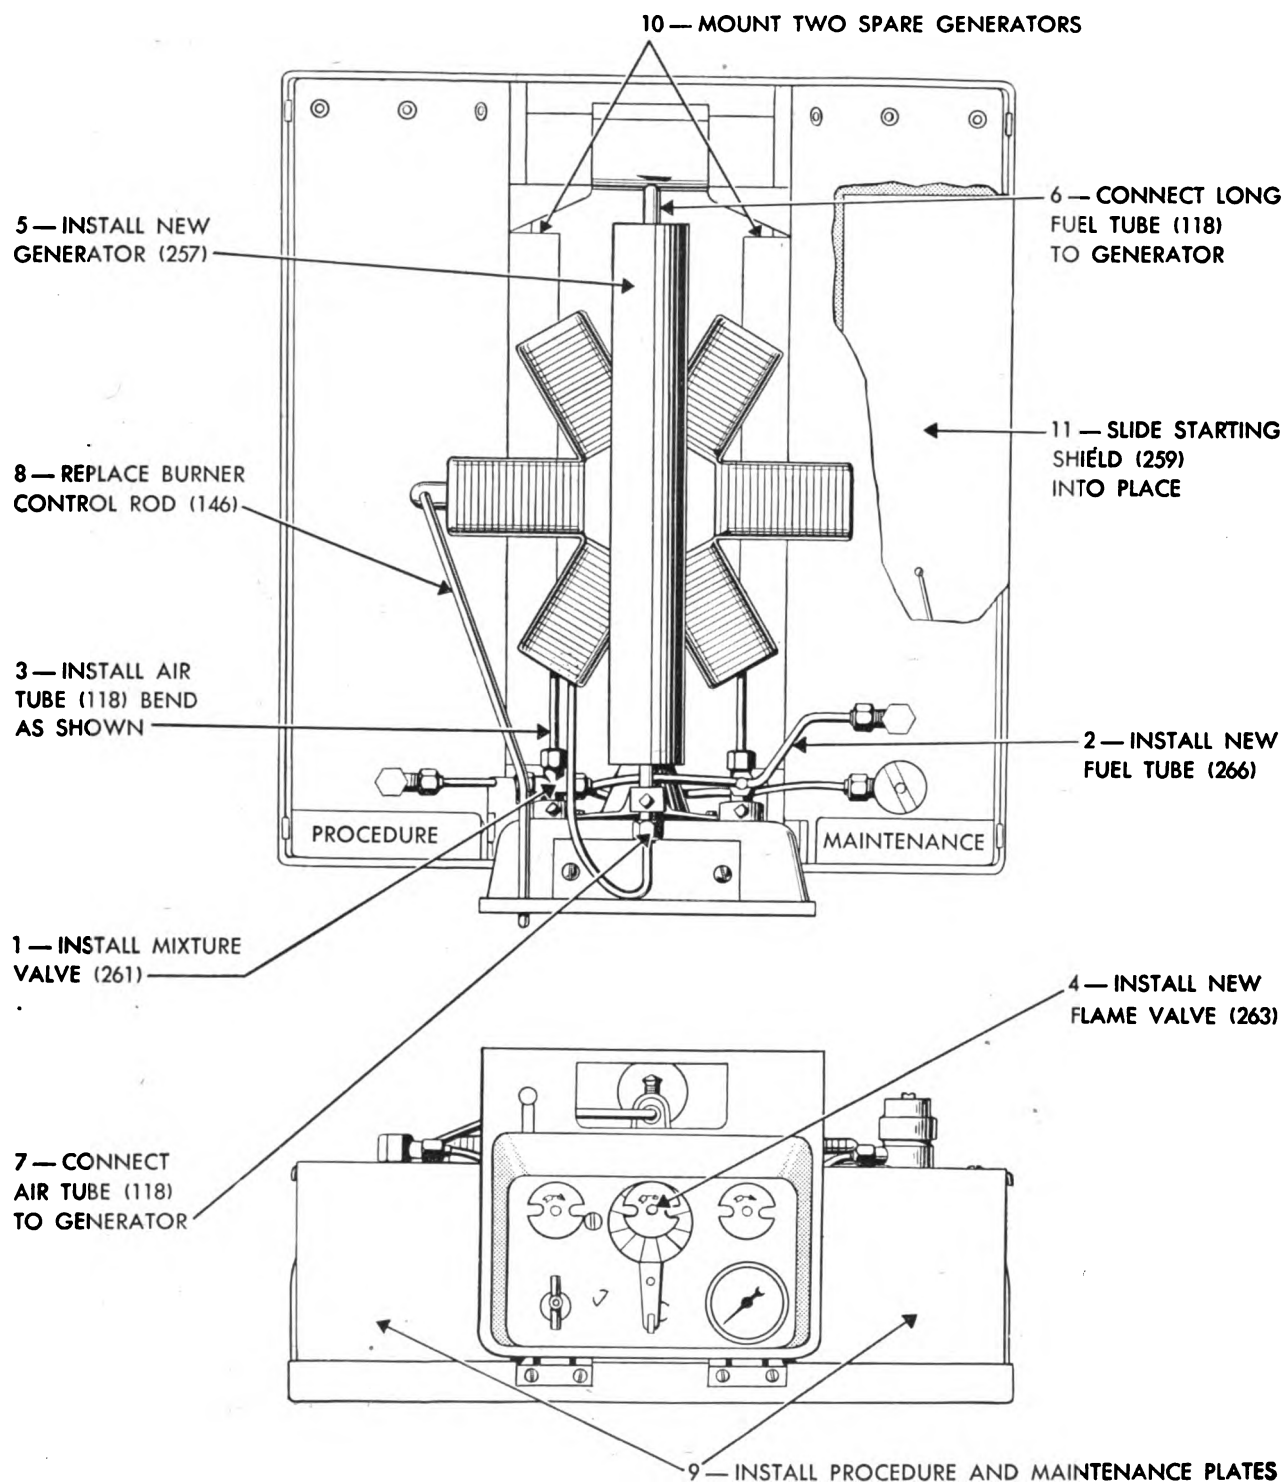

Figure 51. Installation of set, conversion, No. 2 (simplified) (65-J-2377).
d. INSTALLATION OF CONVERSION SET NO. 2 (SIMPLIFIED) (see fig. 51). (1) Install the mixture valve (261) into the socket from which the air valve was removed.